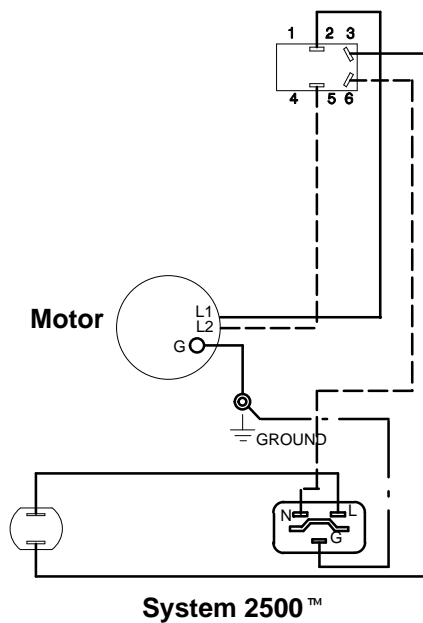
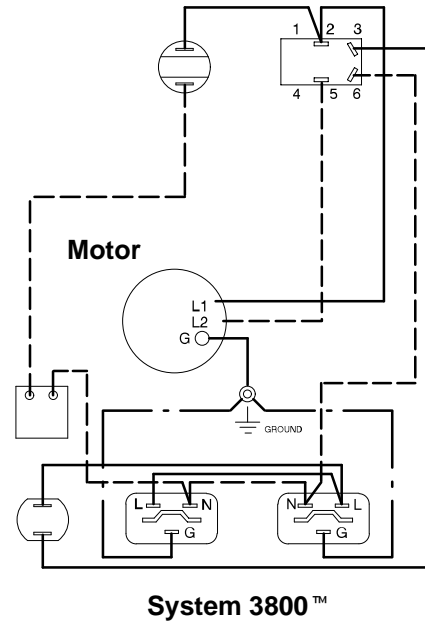

Fig. 10
Fig. 11
2. Remove turbine gasket (25).
3. Loosen 3 screws (6) and remove.
4. Remove plate (82) and 3 spacers (83).
6. Rotate turbine (24) from outlet fitting (18) and lift up from turbine spacers (23).
10. Reconnect wires according to applicable turbine. See Fig. 10, Fig. 11, or Fig. 12 schematics.